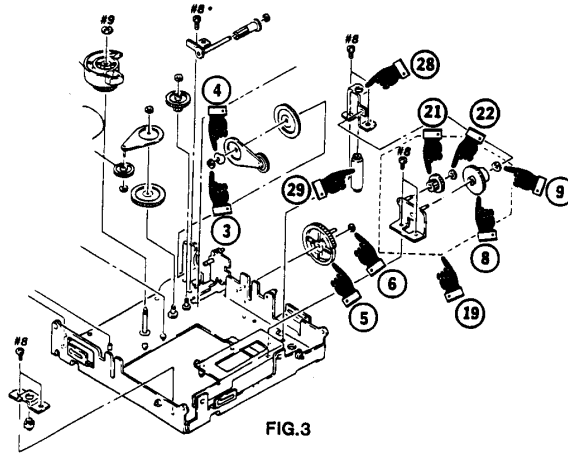

FIG.3
5B- **Note the position of the SL gear** (figure 3, item 5), then remove and discard the SL gear and the split washer (figure 3, item 6) which secures it to the EV chassis. **Be careful not to lose the brass bushing mounted to the SL gear.**
6A- Remove the screw which secures the driver board (figure 2, item 18) and disconnect the flex cable from CNJ-502, then move board away from the EV gear assembly (figure 3, item 19).
6B- Remove the 2 screws which secure the EV bearing bracket (figure 3, item 28), then remove the bracket and bearing (figure 3, item 29). Discard the bearing.
6D- Remove the worm wheel and split washer (figure 3, items 21 and 22) from the EV gear assembly. **Do not discard these parts; they must be re-used.**
6E- Remove and discard the EV gear and split washer (figure 3, items 8 and 9) from the EV gear assembly.